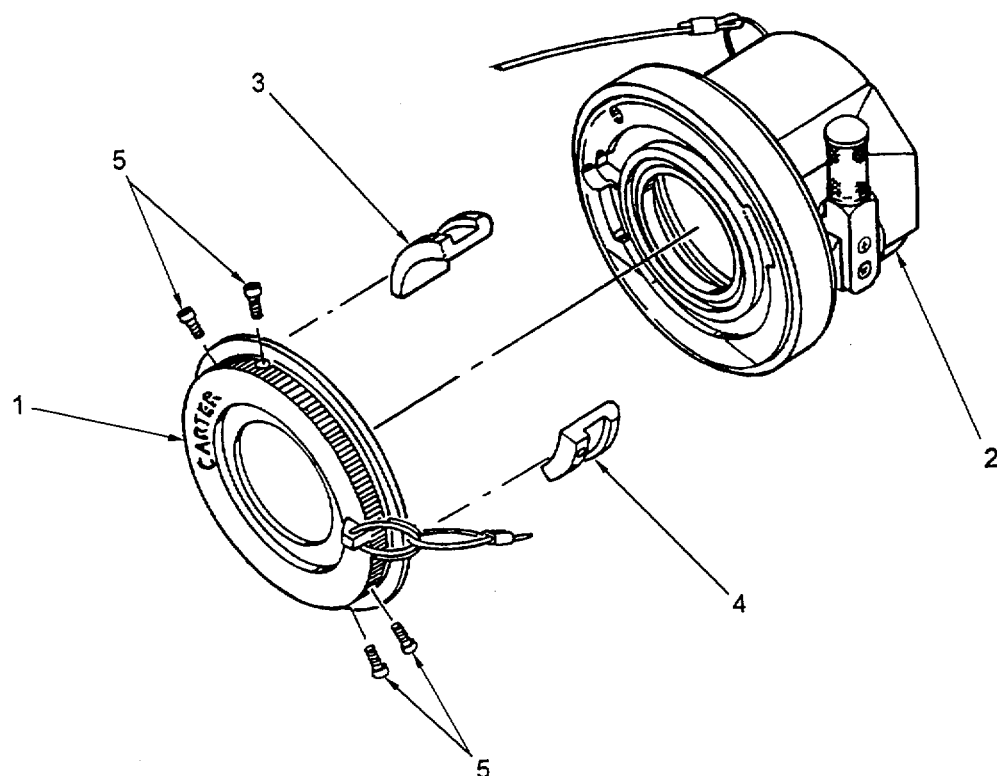

Figure 4-11. Three-Inch Unisex Coupling Dust Cap Lug Replacement
a. Removal. (Figure 4-11)
b. Assembly. (Figure 4-11)